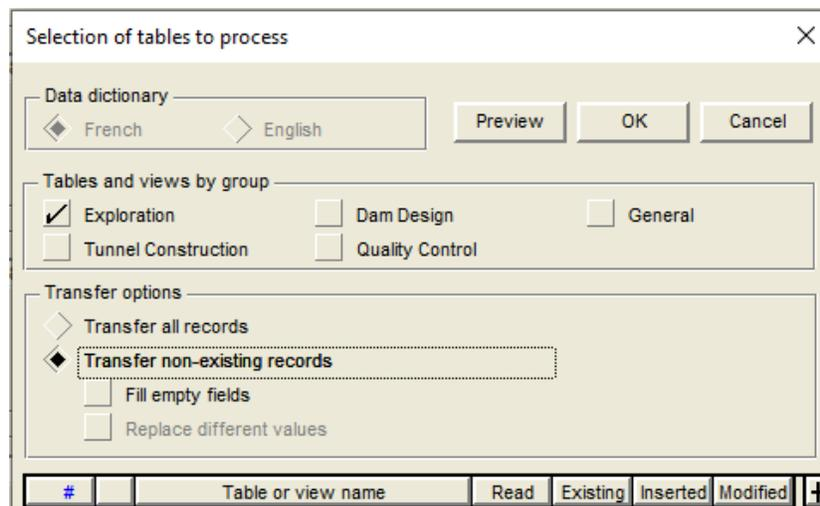

Figure 9 – Selection of tables to process for data transfer
6. Click **Execute** in the main window; the selection window of tables to process opens (Figure 9) and shows the tables present in the connected database.